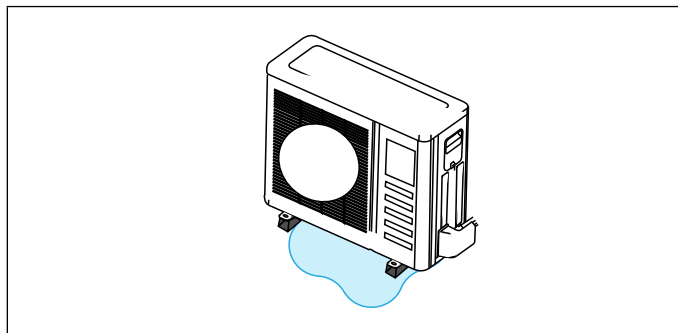

Figure 18. Avoid Defrost Water Ice Hazard
- Carefully consider how to manage defrost water disposal to prevent ice from blocking walkways or creating a safety hazard near the outdoor unit as illustrated in "Figure 18. Avoid Defrost Water Ice Hazard"